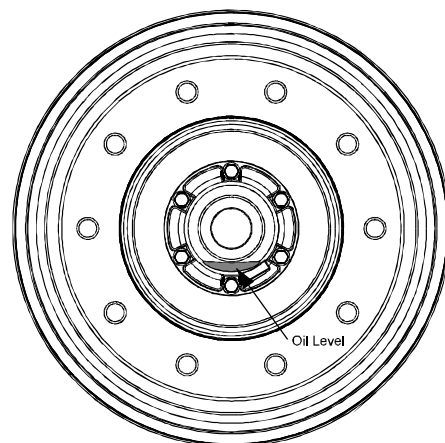

Figure 19 – Wheel
23. Check oil level through the hubcap window at ride height. **(Figure 19)**. If level is below the "add" level line, then fill with recommended oil until "full" level is achieved. Add oil slowly since the heavy weight oil will settle slowly in the hub.